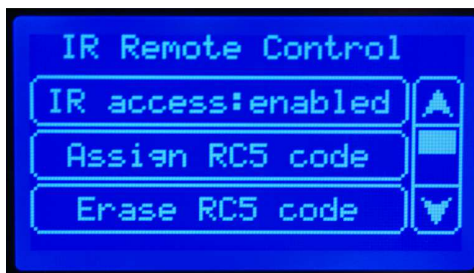

Figure 11: Infrared Remote control settings
- **Calibrate** – starts touch screen calibration procedure (figure 11). After selecting this item the user is asked to tap on the calibration points marked with + symbol. The incorrect or inaccurate calibration of the screen may cause erroneous responses from the touch screen. If an error occurs during calibration procedure (e.g. by touching wrong point location) the process can be repeated by selecting Calibrate option or by holding down the reset button on the front panel for 5 seconds.
Infrared remote control menu (figure 11) contains the following items: